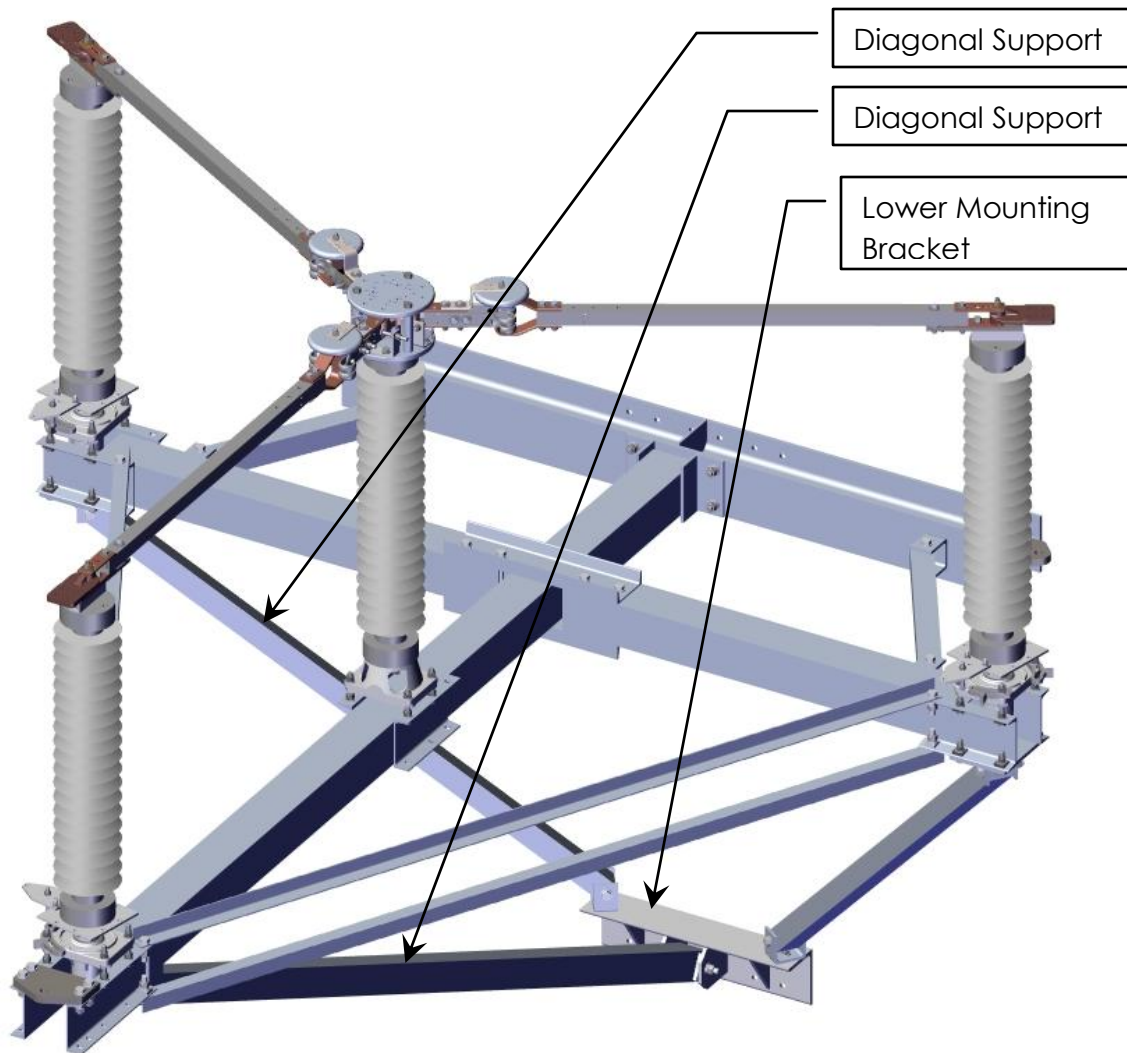

Figure 20: Typical Frame Design
- 1) Check the Operating Mechanism Drawing for proper position of all frame members. See Figure 20.